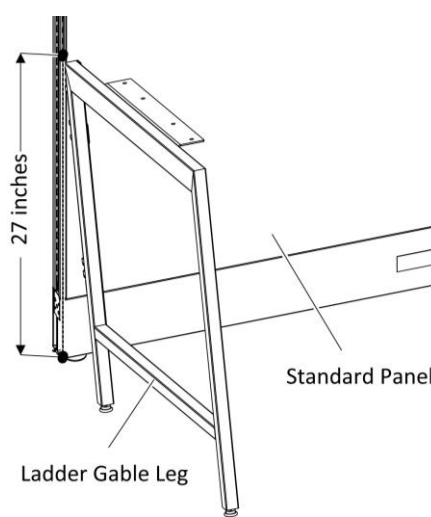

Figure 2
6. Attach the ladder gable leg by angling it at 30 degrees; insert the top hook into the slot opening. Lower the ladder gable leg and place other hooks into the slotted frame channel, (Figure 2).